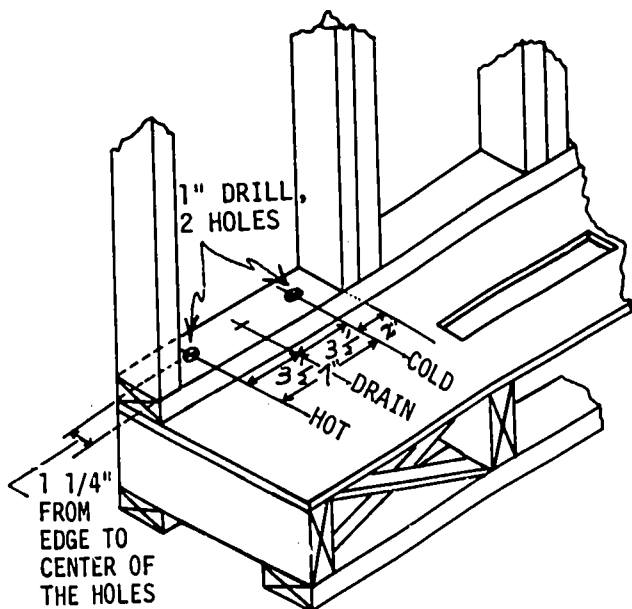

Fig. 50-1. Laying Out Location of Pipes
2. Lay out the holes for the plumbing pipes as shown in Fig. 50-1.